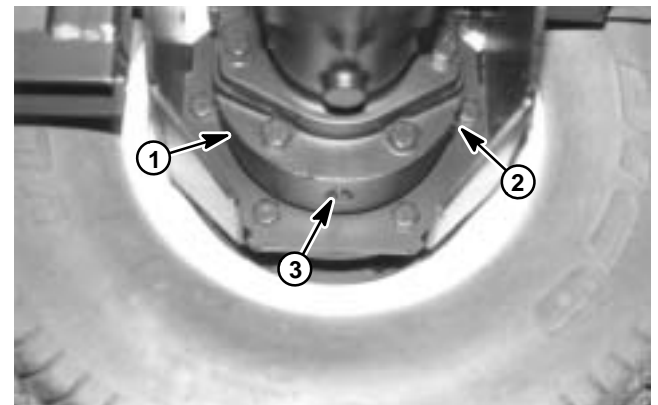

Figure 8
9. Make sure drain plug is installed in bottom of brake assembly (Fig. 8). Fill planetary wheel drive/brake assembly to proper level with SAE 85W-140 gear lube (see Operator's Manual).